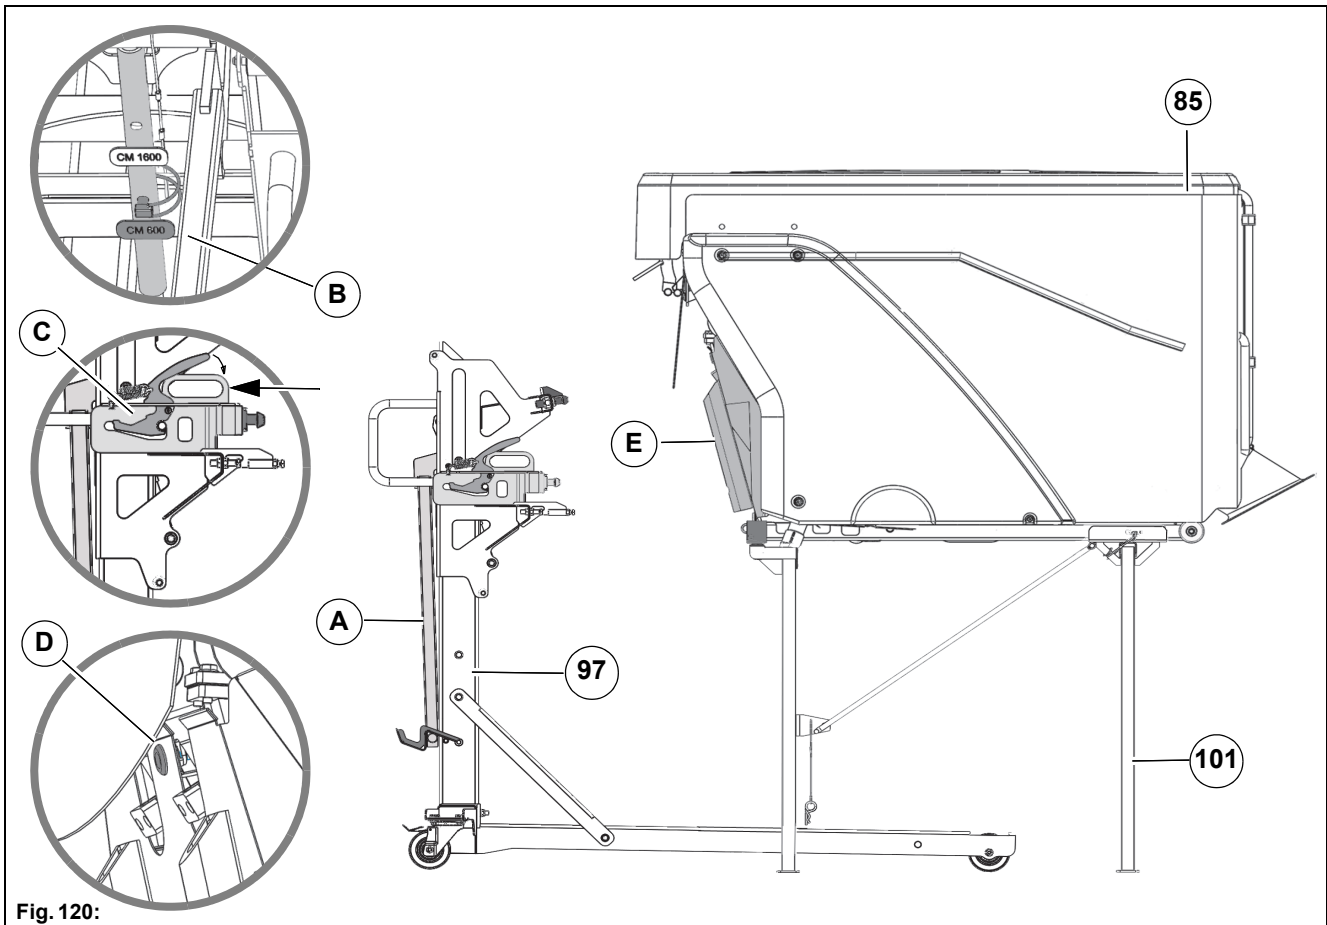

Fig. 120:
2. Unlock the lever **Fig. 120-A** of the trolley **Fig. 120-97** and swing it into the upper position.
3. Hold the lever **Fig. 120-A** in the upper position with one hand. With your other hand plug the mounting bolt **Fig. 120-B** on the Citymaster 650.
Risk of injury! The lever **Fig. 120-A** can swing over.
4. Unlock the sledge **Fig. 120-C** with the lever and push it into the rear position.
5. Open the lock **Fig. 120-D** of the lid **Fig. 120-E** and swing the lid downwards.